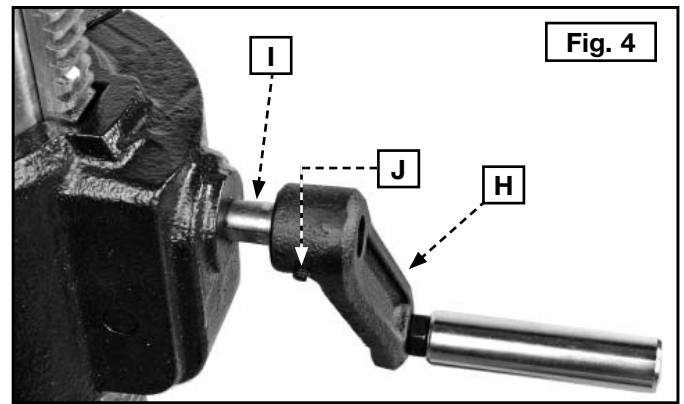

Fig. 4
2. Attach the table raising and lowering handle (H) Fig. 4 to the worm gear shaft (I). Tighten the set screw (J) against the flat on the shaft with the 3 mm hex wrench supplied.